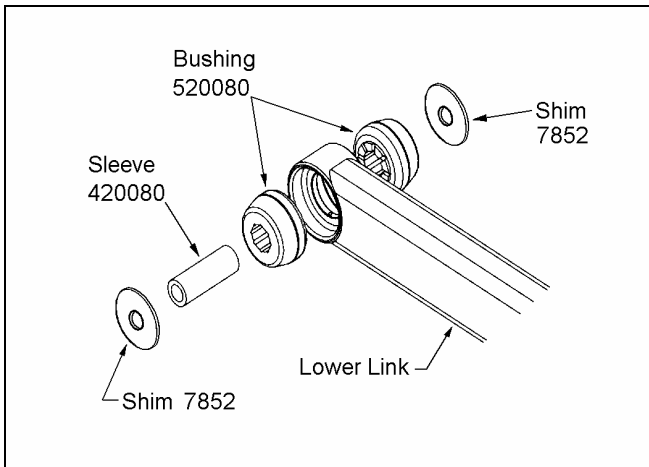

Figure 4
- 2) Press the lubricated bushings into one end of a Rancho lower link (176080 or 176081) as shown in figure 4.